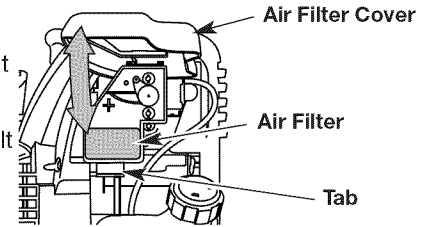

Fig. 23
1. Open the air filter cover. Push the tab on the underside of the cover inward. Then pull the air filter cover out and up. (Fig. 23).
7. Reinstall the air filter cover. Position the slots on the top of the air filter cover onto the tabs at the top of the back plate (Fig. 23).
8. Swing the cover down until the tab on the air filter backplate snaps into place in the slot on the air filter cover (Fig. 23).